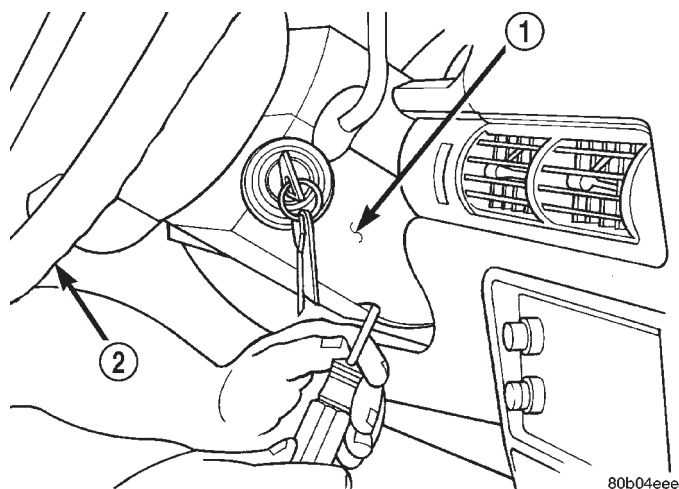

Fig. 77 Lower Column Cover Screw Removal/Installation
- (5) Remove column cover screws (Fig. 77).
(15) Install upper and lower covers from the steering column (Fig. 77).